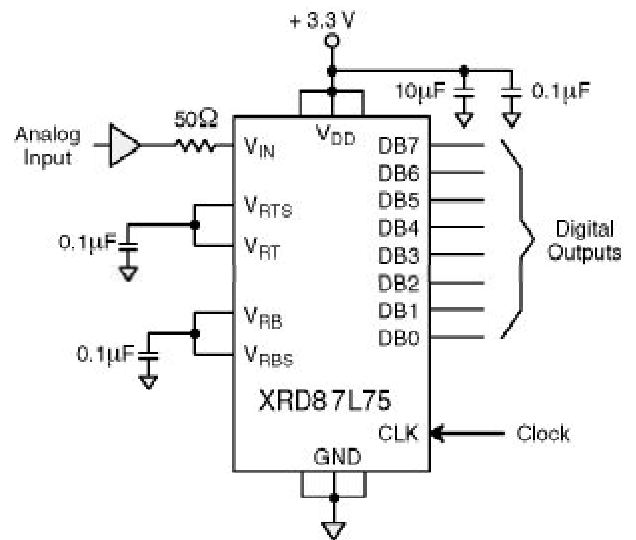

Figure 5. Typical Circuit Connections
- See V_{IN} input equivalent circuit (Figure 5). Switched capacitor analog input requires driver with low output resistance.
The reference can be biased internally by shorting V_{RT} to V_{RTS} and V_{RB} to V_{RBS} . This will generate $0.4V$ at V_{RB} and $1.72V$ at V_{RT} (see *Figure 5*).